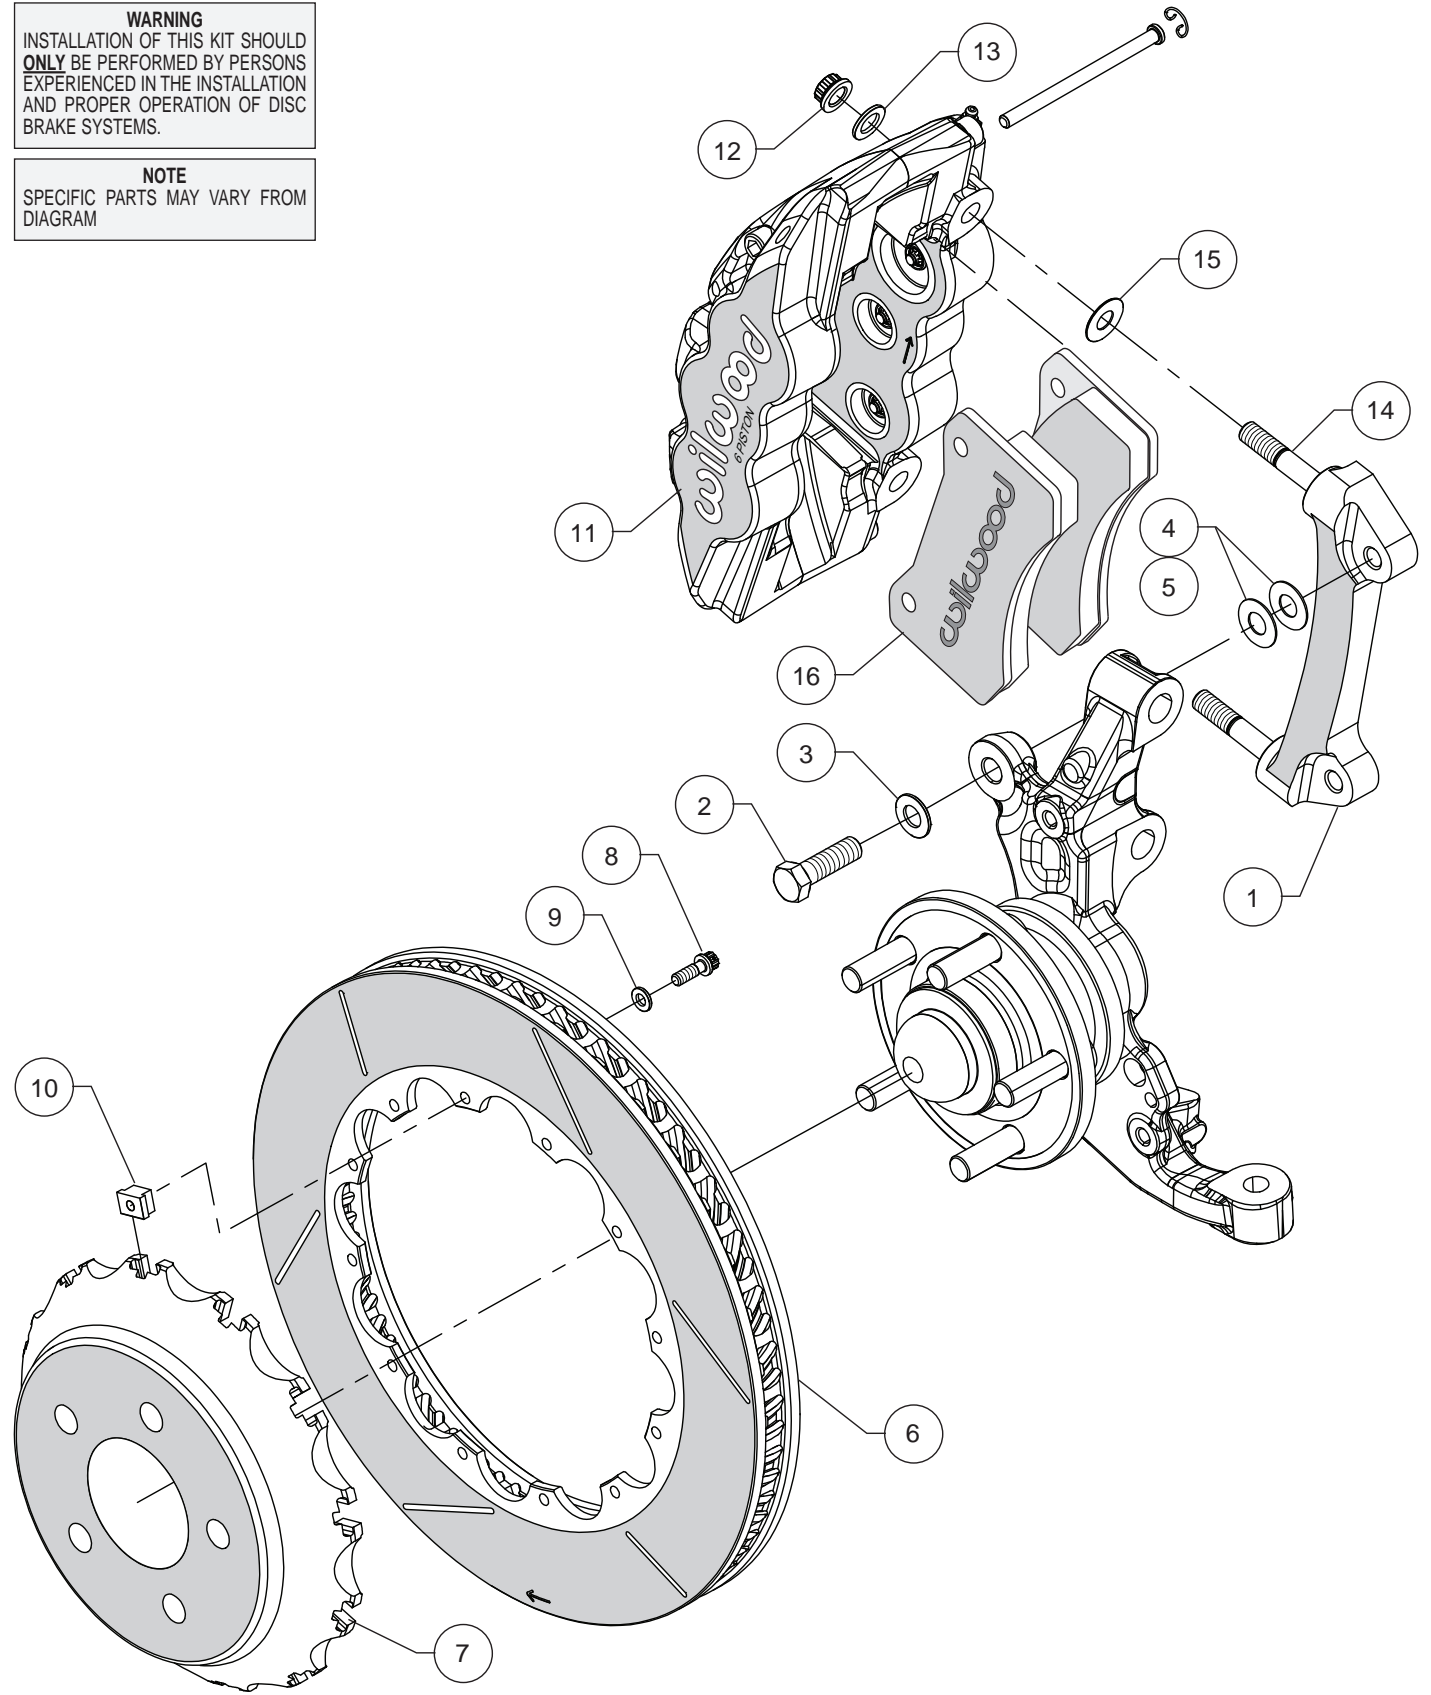
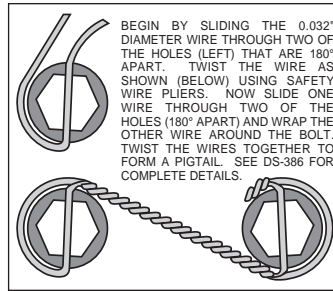

Figure 1. Typical Installation Configuration
Figure 3. Safety Wire Diagram
Assembly Instructions (numbers in parenthesis refer to the parts list and Figure 1 on the preceding pages):
- The caliper mount bracket (1) should initially be installed with clean, dry threads on the mounting bolts. Orient the bracket, as shown in Figure 1 and Photo 1, and install using bolts (2) and washers (3). Initially place two .033" thick shims (4) on each bolt between the bracket and upright, Figure 1. Temporarily tighten the mounting bolts. **NOTE:** The bracket must fit squarely against the mount bosses on the upright. Inspect for interference from casting irregularities, machining ridges, burrs, etc. Later, after the caliper alignment has been checked, the mount bolts will be secured using red *Loctite*® 271.
- Orient the rotor (6) and the hat (7) as shown in Figure 1 and Photo 2. Attach rotor to hat using bolts (8), washers (9), and t-nuts (10), Figure 1. Follow additional instructions included with the bolt kit. Using an alternating sequence, apply red *Loctite*® 271 to the threads, and torque to 120 in-lbs. Safety wire bolts using standard 0.032 inch diameter stainless steel safety wire as shown in Figure 3. Refer to Wilwood's data sheet DS-386 (available at www.wilwood.com/Pdf/DataSheets/ds386.pdf) for complete safety wire installation instructions.
- **NOTE:** *This kit contains distinct right and left hand calipers that must be mounted in a specific direction, as described below.* Lubricate the caliper mounting studs (14) with lightweight oil. Initially place one .030" thick shim (15) on each stud between the caliper and the bracket, as shown in Figure 1 and Photo 4. Mount the caliper (11) onto the bracket (1) using lock nuts (12) and washers (13), Figure 1. Temporarily tighten the lock nuts. Ensure that the caliper is mounted so the largest pistons are at the rotor exit end of the caliper, in relation to the direction of the rotor. View the rotor through the top opening of the caliper. The rotor should be centered in the caliper, Photo 5. If not, adjust by adding or subtracting shims (4 and/or 5) between the bracket and the upright. Always use the same amount of shims on each of the two mounting bolts. Once the caliper alignment is correct, remove the bracket mounting bolts one at a time, apply red *Loctite*® 271 to the threads, and torque to 60 ft-lbs.
- Remove the two pad retaining pins from the caliper (11) by carefully popping out the pin retaining clips and sliding out the pins. Insert the brake pads (16) into the caliper from the bottom, Figure 1 and Photo 6. With the friction material facing the rotor, secure the brake pads in place with the pad retaining pins and clips, Photo 7. Reinstall the caliper onto the caliper mounting bracket and temporarily tighten the lock nuts. Check that the top of the brake pad is flush with the outside diameter of the rotor, Photo 8. If not, adjust by adding or subtracting shims (15) between the caliper and the bracket. After the caliper pad height is set, torque the caliper lock nuts (12) to 47 ft-lb.